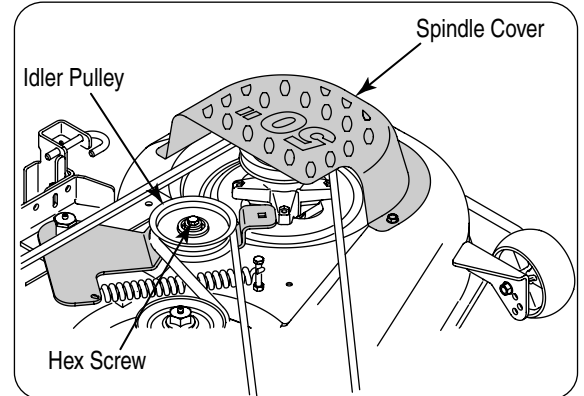

Figure 25
- Remove the spindle covers by removing the self-tapping screws that fasten them to the deck. Refer to Figure 25.
1. Loosen the hex screw fastening the idler pulley to the idler arm as necessary to slide the belt from between the idler pulley and idler arm. See Figure 25.